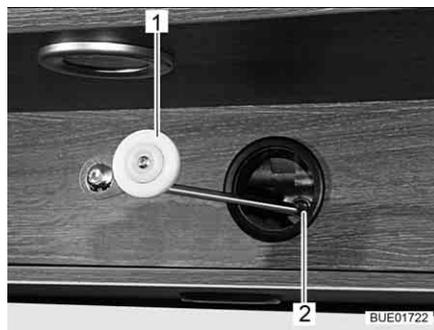

Fig. 112 Mechanical operation, drive
- Insert the crank (Fig. 112,1) provided or an Allen wrench into the accommodation on the motor (Fig. 112,2).